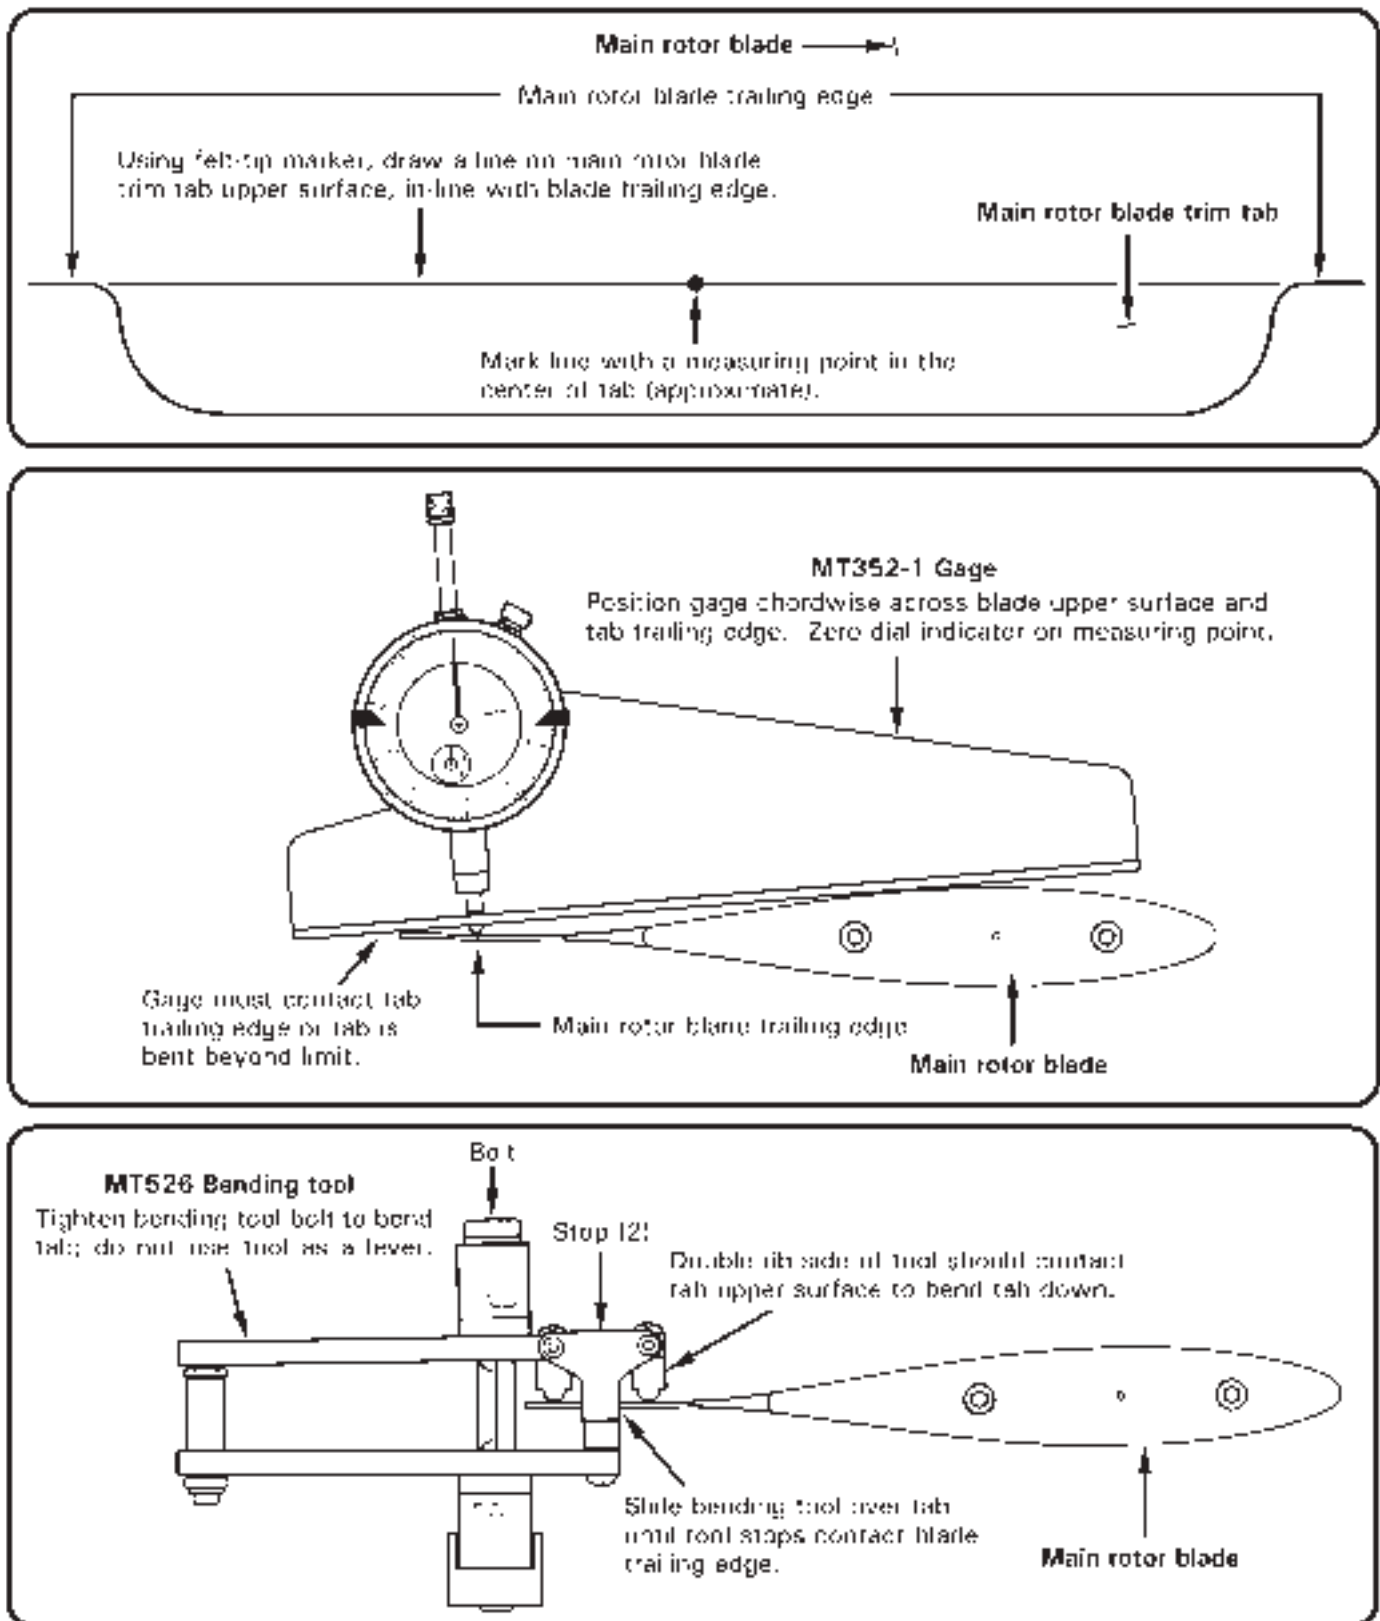

FIGURE 10-12 MAIN ROTOR BLADE TRIM TAB ADJUSTMENT
1. Using felt tip marker, ink mark main rotor blade trim tab per Figure 10-12. Mark line with a measuring point in the center of the tab (approximate).
3. Position MT526-1 (trim tab bending tool (for A016-4 [stainless steel skin] blades) or MT526-8 trim tab bending tool (for A016-6 [aluminum skin] blades) on tab per Figure 10-12. Slide tool completely over tab until tool stops contact blade trailing edge. Double-rib side of tool should contact tab upper surface to bend tab down. Double-rib side of tool should contact tab bottom surface to bend tab up.